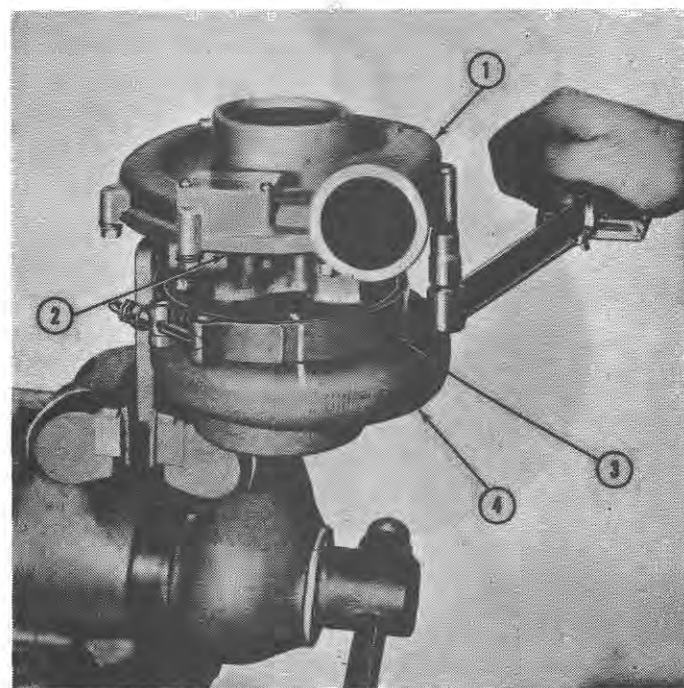

Figure 12
15. Clamp the turbine housing in a vise as shown in Figure 12.
- Position the compressor cover on the bearing housing aligning the reference marks as shown in Figure 12.